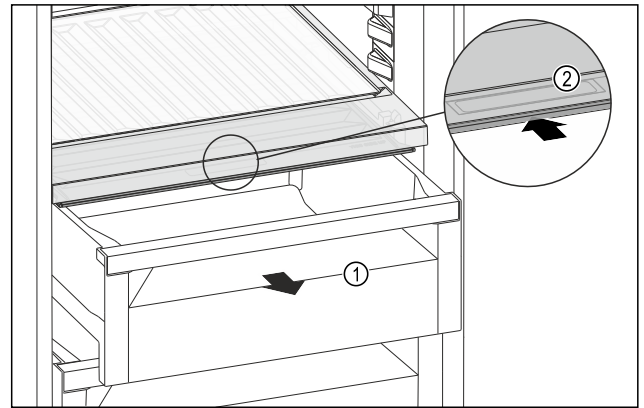

Fig. 231
- Pull out the drawer Fig. 231 (1).
- Grasp the recessed grip Fig. 231 (2) on the compartment lid and push the compartment lid backwards at the same time.